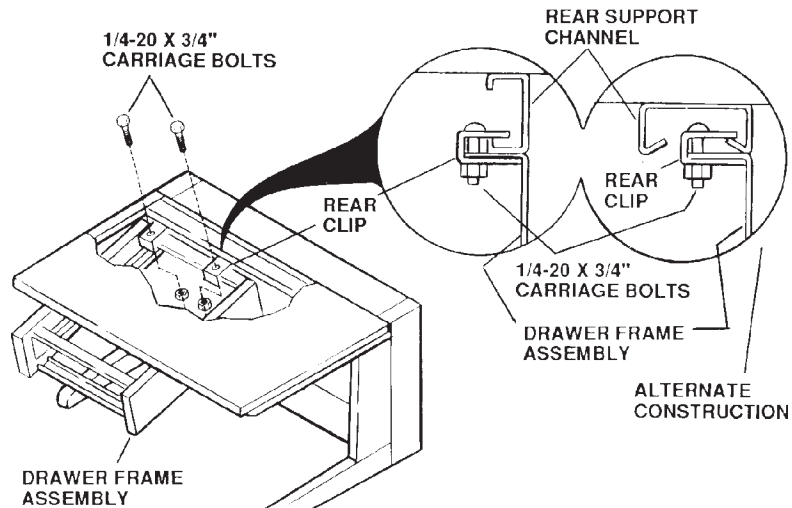

Figure 2
### Refer to Figure 2 & 3:
- a. Insert the back end of the frame into the back C-channel of table. See Figure 2.